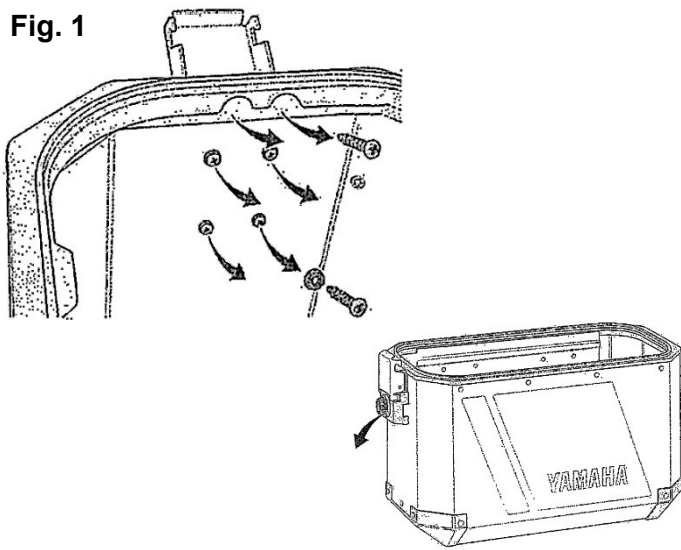

Fig. 2
2. Align and notch the ⑨ Cylinder Lock Set into the latch assembly. (Fig. 2)
3. Insert the ① Compression Spring into the indicated location in the latch assembly. (Fig. 2)
4. Lubricate the ① Compression Spring with Yamaha lithium soap based grease. Place the ② Ball Bearing on top of the ① Compression Spring. Tip: The grease helps hold the bearing in place. (Fig.2)
5. Place thread locker on two of the ⑤ Cap Head Bolts. Place the ④ Slide Cam Right on top of the ② Ball Bearing and ① Compression Spring and press the ④ Slide Cam Right down until it touches the back of the ⑨ Cylinder Lock Set. Hold it in place and thread in the ⑤ Cap Head Bolts. Torque to 0.7 Nm (0.07 kg-m or 0.5 lb-ft) (Fig. 2)